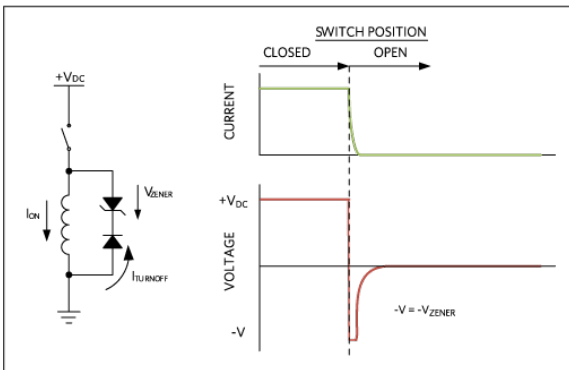

Figure 4. Zener diode for faster current decay.
The other major disadvantage of the simple freewheel diode approach is that it lengthens the decay of current through the inductor. As explained in "Coil Suppression Can Reduce Relay Life,"(2) this slow decay of current can create problems such as "sticking" between relay contacts. For applications where the current must decay quicker, an alternative solution is to use a Zener diode as shown in Figure 4, which gives a faster current ramp rather than an exponential decay. When the switch opens, the current is shunted through the general-purpose diode and Zener diode path, maintaining a voltage equal to the Zener voltage (plus forward diode drop) until the inductor energy is dissipated.